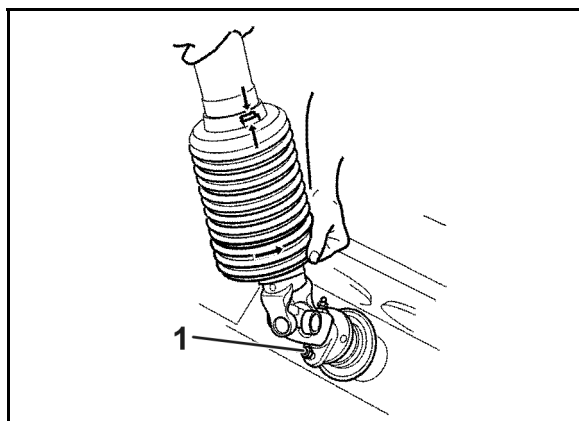

Fig. 89
1. Move the PTO shaft guard into installation position (Fig. 89).
The separately packaged **screws M8 x 30 A2-70** are **replacement shear bolts** (Fig. 89/1) for fastening the universal joint fork of the PTO shaft to the flange of the gearbox input shaft. Always use grease when fastening the PTO shaft to the gearbox input shaft.